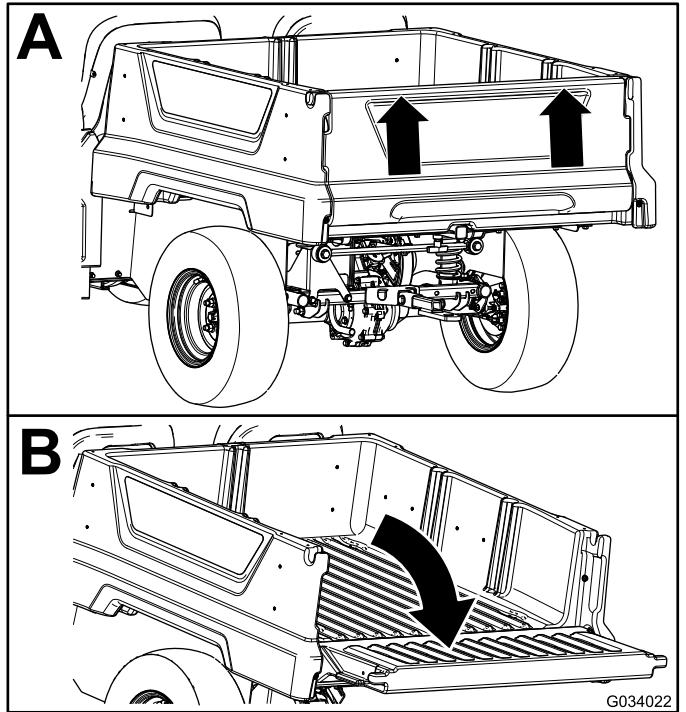

Figure 14
2. Using both hands, raise the tailgate using the ridge near the top of the tailgate (Figure 14).
3. Lower the tailgate until it is flush with the bottom of the cargo bed (Figure 14).